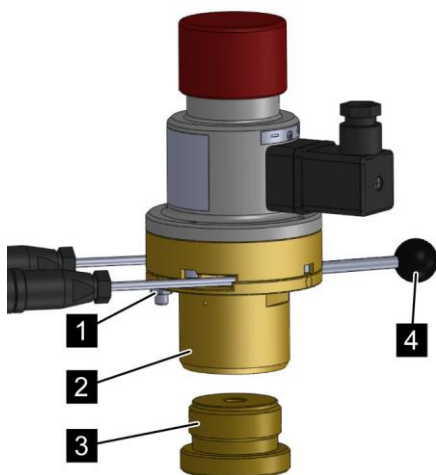

Fig. 87: Release device with mechanical blocking
3. ➤ Unscrew the hex nut (Fig. 87/1).
4. ➤ Switch the hand lever (Fig. 87/4) to the "ready for operation" position.
5. ➤ Tighten the hex nut (Fig. 87/1) with $10 \pm 2 \text{ Nm}$ ($7.38 \pm 1.48 \text{ lb}\cdot\text{ft}$).
7. ➤ Activate the release device (Fig. 87/2) with 24 V DC.
10. ➤ Screw the screw reset tool (Fig. 87/3) onto the electrical release device (Fig. 87/2) by hand until the stop.
11. ➤ Unscrew the screw reset tool (Fig. 87/3) and remove it.
12. ➤ Unscrew the hex nut (Fig. 87/1).
13. ➤ Switch the hand lever (Fig. 87/4) to the "isolated" position.
14. ➤ Tighten the hex nut (Fig. 87/1) with 10 ± 2 Nm (7.38 ± 1.48 lb•ft).
15. ➤ Activate the release device (Fig. 87/3) with 24 V DC.
18. ➤ Unscrew the hex nut (Fig. 87/1).
19. ➤ Switch the hand lever (Fig. 87/4) to the "ready for operation" position.
20. ➤ Tighten the hex nut (Fig. 87/1) with 10 ± 2 Nm (7.38 ± 1.48 lb•ft).
21. ➤ Screw the screw reset tool (Fig. 87/3) onto the electrical release device (Fig. 87/2) by hand until the stop.
22. ➔ Unscrew the screw reset tool (Fig. 87/3) and remove it.